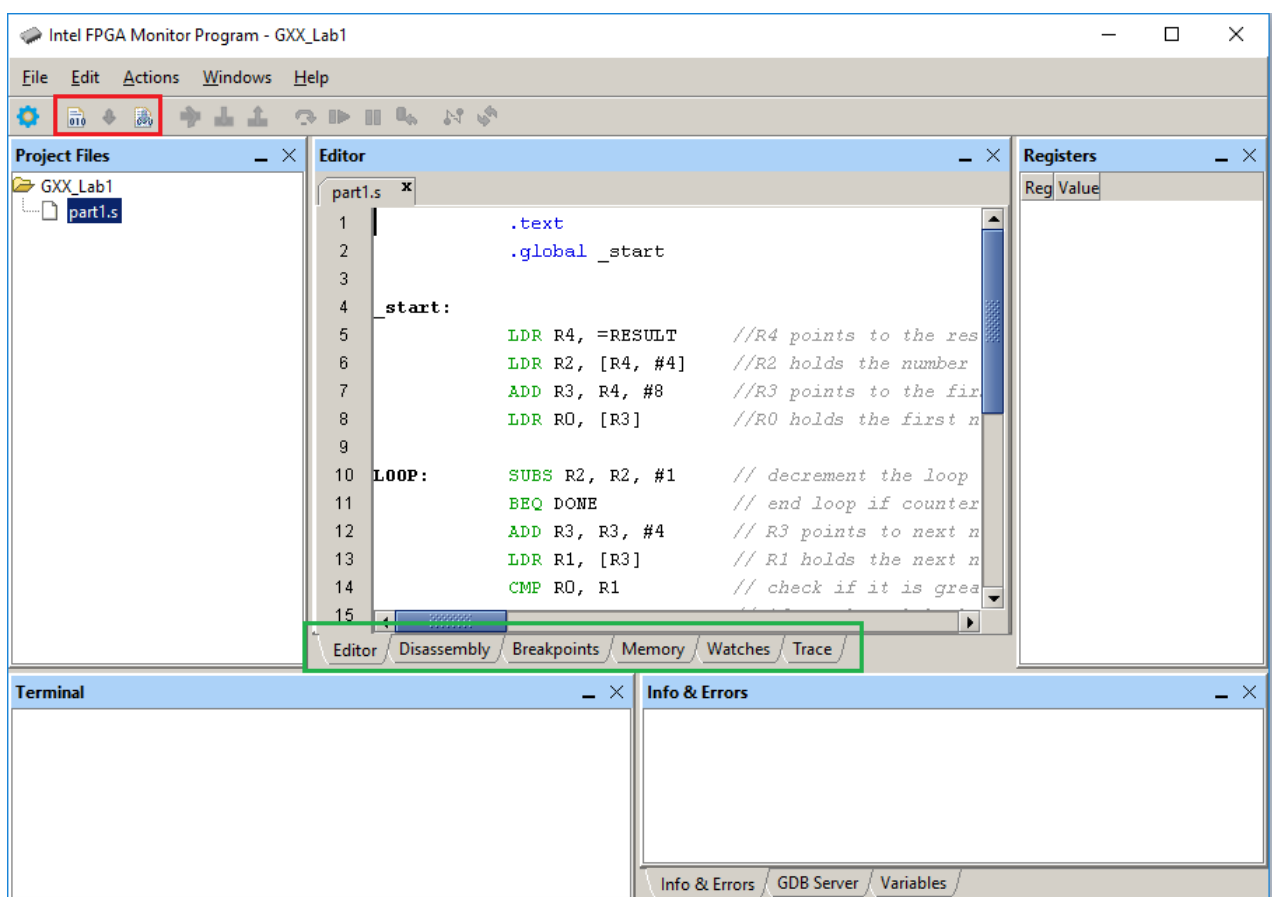

Figure 11: Using the IDE - Development mode
1. **Figure 11** shows the useful features of the IDE when a project is opened. We can say that we are now in 'development mode' - where the code is not loaded onto the board and we are in the process of writing code and compiling it to check for errors.